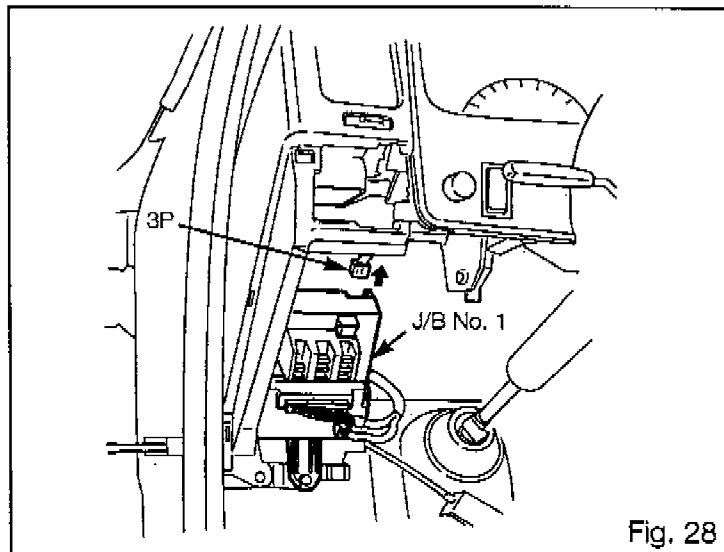

Fig. 28
- (10) Locate and disconnect the 3P connector from the upper back side portion of J/B No. 1. Fig 28